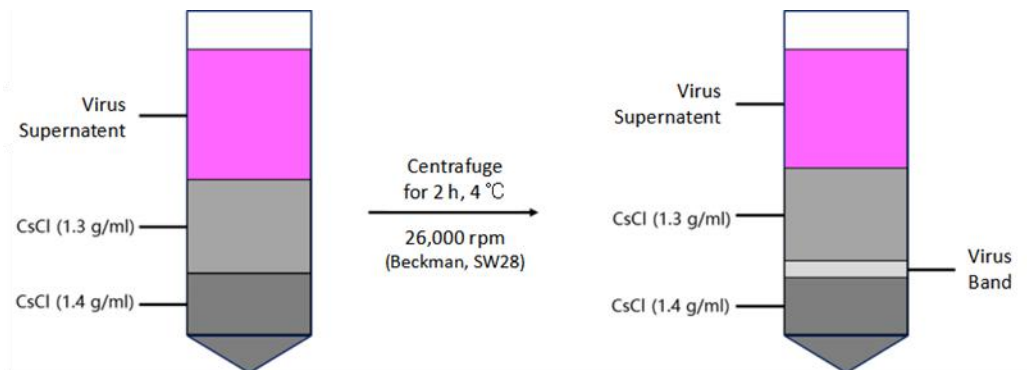

Figure 2. CsCl density gradient centrifugation process.
- b. PEG8000 condensation: Add 50 ml PEG8000 solution (20% PEG8000 in ultra-pure water with 2.5 M NaCl) per 100ml supernatant, placing on ice for 1 hour to pull-down adenoviruses (Time for incubation on ice can be relatively extended). Centrifuge the mixture for 20 min at 7000 g, 4°C, discard the supernatant and resuspend adenovirus pellet in 10 ml CsCl solution at density of 1.10g/ml (solvent of CsCl is 20mM Tris-HCl, pH8.0, please see the following CsCl solution preparation method in table 2). The adenovirus-containing CsCl solution should be pink (Figure 2).